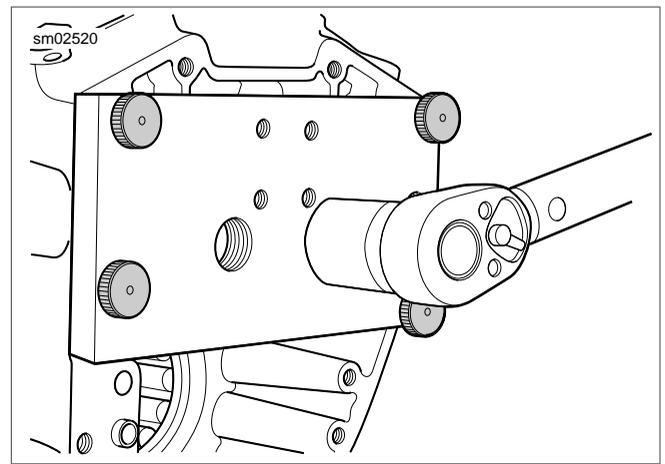

Figure 3-119. 1 Inch (25.4 mm) Bearing Installation
10. See Figure 3-119. Using a 7/16 in. open end wrench, hold flat on collet to prevent rotation. Using a second 7/16 in. open end wrench, expand collet by turning hex at end of shaft in a clockwise direction. Expandable end of collet makes contact with needle bearing ID.
- b. See Figure 3-119. Using torque wrench, turn hex at end of installer forcing screw in a clockwise direction to press needle bearing into bore